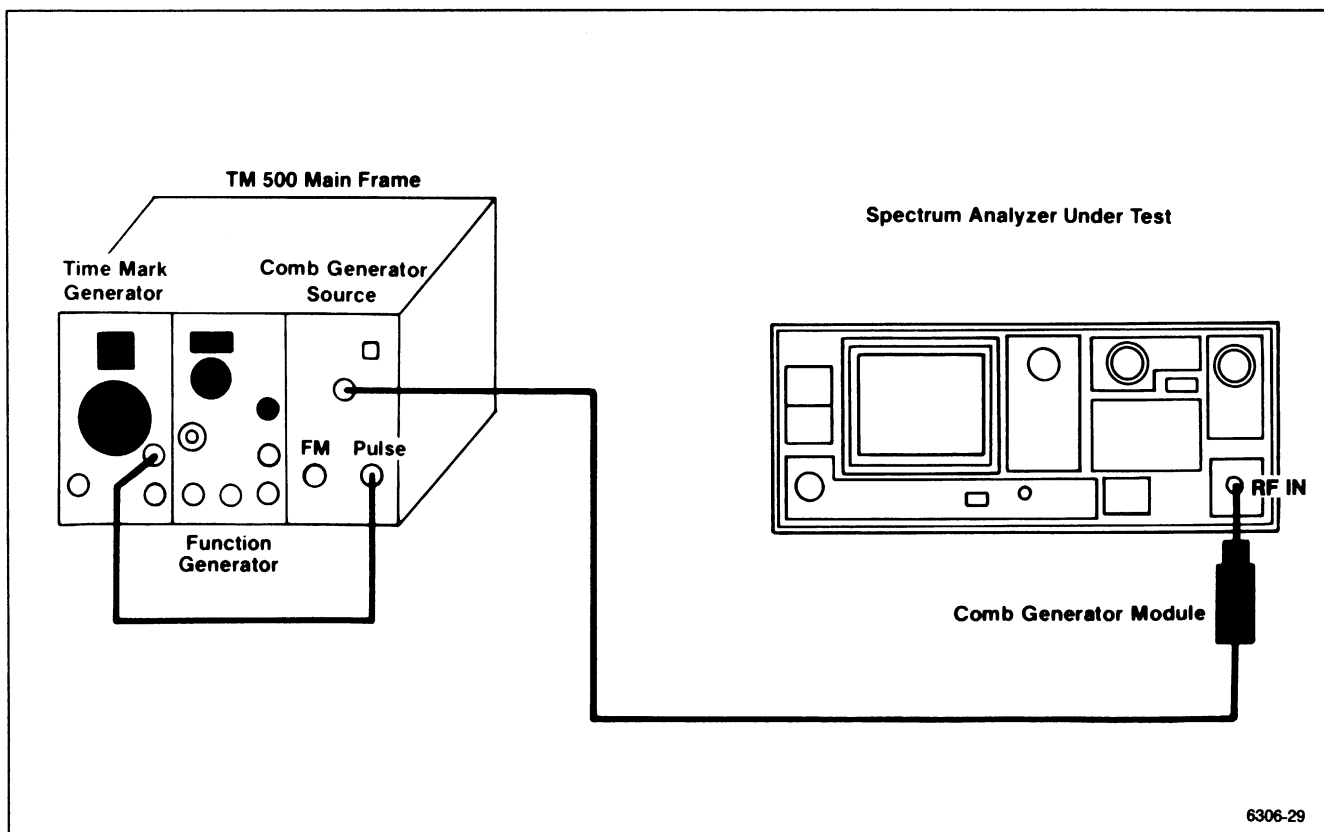

Figure 6-14. 2182 MHz 2nd LO frequency accuracy test setup.
a. Connect the test equipment as shown in Figure 6-14.